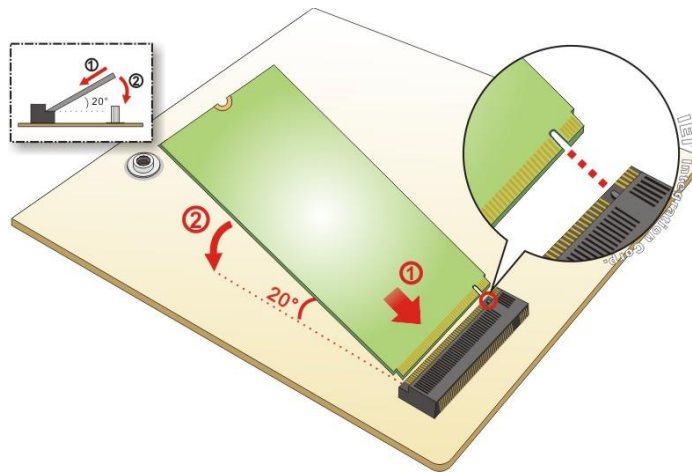

Figure 5-10: Inserting the M.2 Module into the Slot at an Angle
Step 3: Line up the notch on the module with the notch on the slot. Slide the M.2 module into the socket at an angle of about 20° (Figure 5-10).